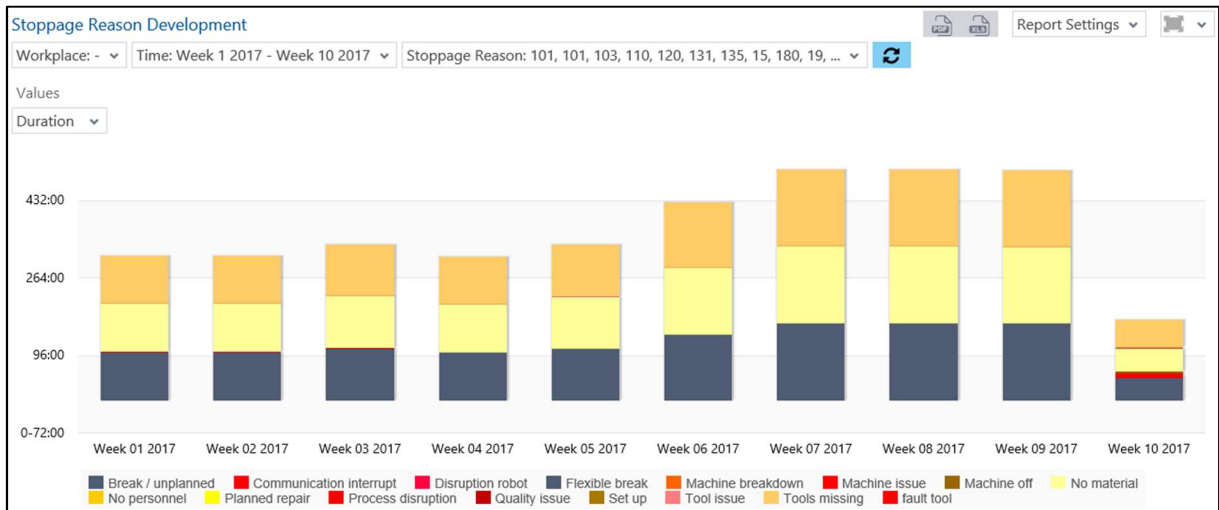

Fig. 150: Stoppage Reason Development as a column chart
- Stoppage Reason Development as a column chart (Fig. 150):